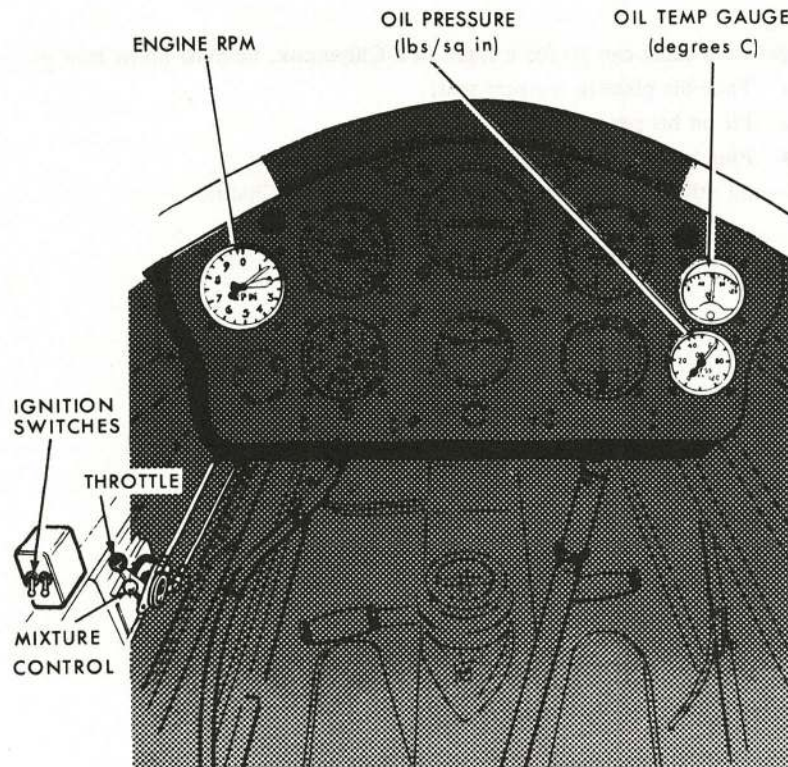

Fig 11 Engine Instruments and Controls
- (1) *The Control Column.* The control column is used to control the flight path of the aircraft. When the control column is moved *forward*, the nose of the aircraft goes *down*; when moved *back*, the nose *rises*. When the control column is moved to the *left*, the aircraft's left (port) wing goes *down* and the *right* (starboard) wing comes *up*. This causes the aircraft to "bank" to the left, giving a turn to port. The opposite happens—*ie a turn to starboard*—if the control column is moved to the *right*.
- (2) *Rudder Pedals.* The rudder is very little used in modern flying technique. Its main purpose is to counteract slip and skid, induced by other means, and to keep the aircraft in "balanced flight".
- (3) *Brakes and Flaps.* Large levers are located, one on each side of the cockpit. The one on the left (port) operates the brakes on the main wheels; the one on the right (starboard) controls the flaps.
11. **Engine Instruments and Controls.** There are *three instruments* associated with the *engine*, and these are grouped on either side of the flying instruments. There are also *two controls* for adjusting the engine performance and these are mounted on the left (port) cockpit wall. Fig 11 illustrates the engine instruments and controls.